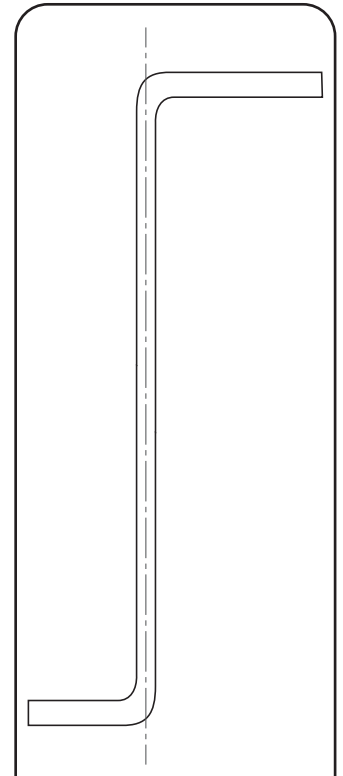

Figure 12: Ball Placement and Removal Tool (Make Locally)
6. Using two lifting hooks illustrated in Figure 12, remove the ball. This is accomplished by inserting the hooked end into the flow port of the ball and lifting upward.
Loosen the packaging gland bolts one full turn. Wait approximately two minutes to verify that the gland and flange does not move and reload the packing gland nuts. Loosen the actuator drive bushing lock screw and move the bushing away from the packing gland flange enough to slow removal of the packing gland slud nuts. Move the packing gland flange and packing gland away from the stuffing box until the flange contacts the yoke. Using a wire hook similar to the one illustrated in Figure 12, or a packing remover, remove the 316 stainless steel¹ packing from the stuffing box. Place the split ring packing around the stem below the packing gland. Use the gland to position the packing in the stuffing box. The correct number of rings is specified in Table 2. Install the packing gland nuts and tighten. Final adjustment must be made after the valve is pressurized. Tighten just enough to prevent leakage.